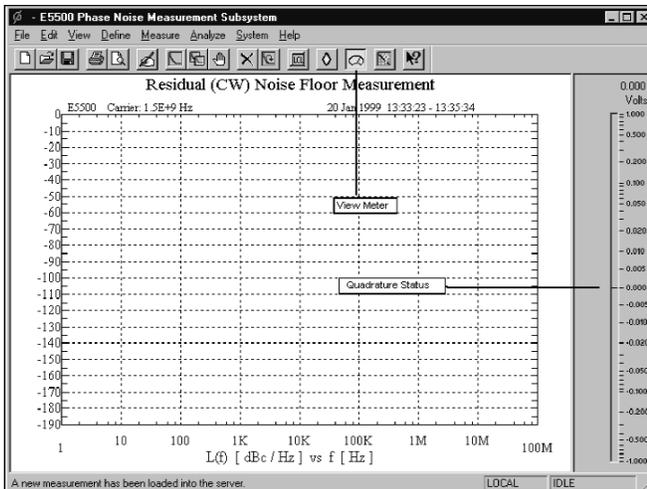

**Figure 2-13. Configuration diagram for amplifier pulsed carrier residual phase noise measurement**
1. Connect the components as shown in Figure 2-13. The amplifier after the pulse modulator may be necessary to set the appropriate power levels at the signal and reference inputs of the phase noise measurement system. The attenuator prior to the amplifier-under-test may be necessary to adjust the power level at the input to the phase noise test set and keep the amplifier out of compression. Do not connect the signal paths to the phase noise measurement system at this step.